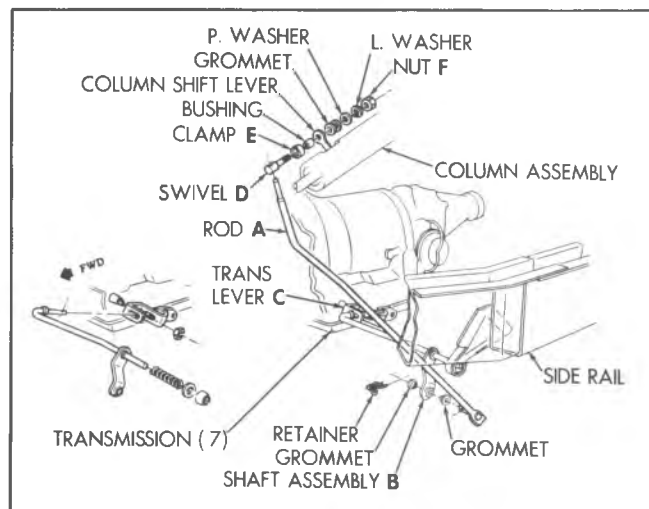

Fig. 2G--Column Shift Linkage - G Series
(Fig. 2G)
4. Attach rod (A) to shaft assembly (B) as shown (fig. 2G).
5. Slide swivel (D) and clamp (E) onto rod (A) align the column shift lever and loosely attach as shown.
7. Tighten nut (F) to 18 foot pounds.